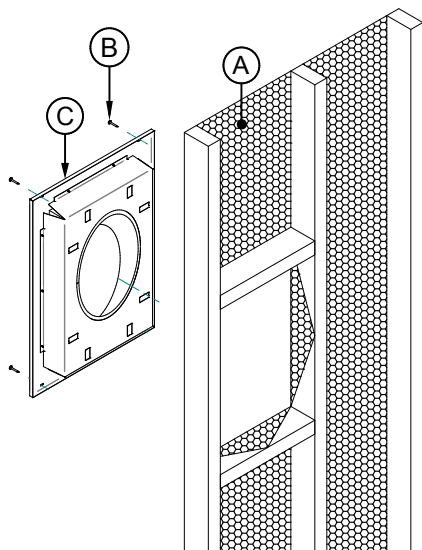

Figure 3
3. Carefully make an x-shaped cut in the vapour barrier (**A**) in a way that allows it to be folded and fastened into the opening, as demonstrated in Figure 3.